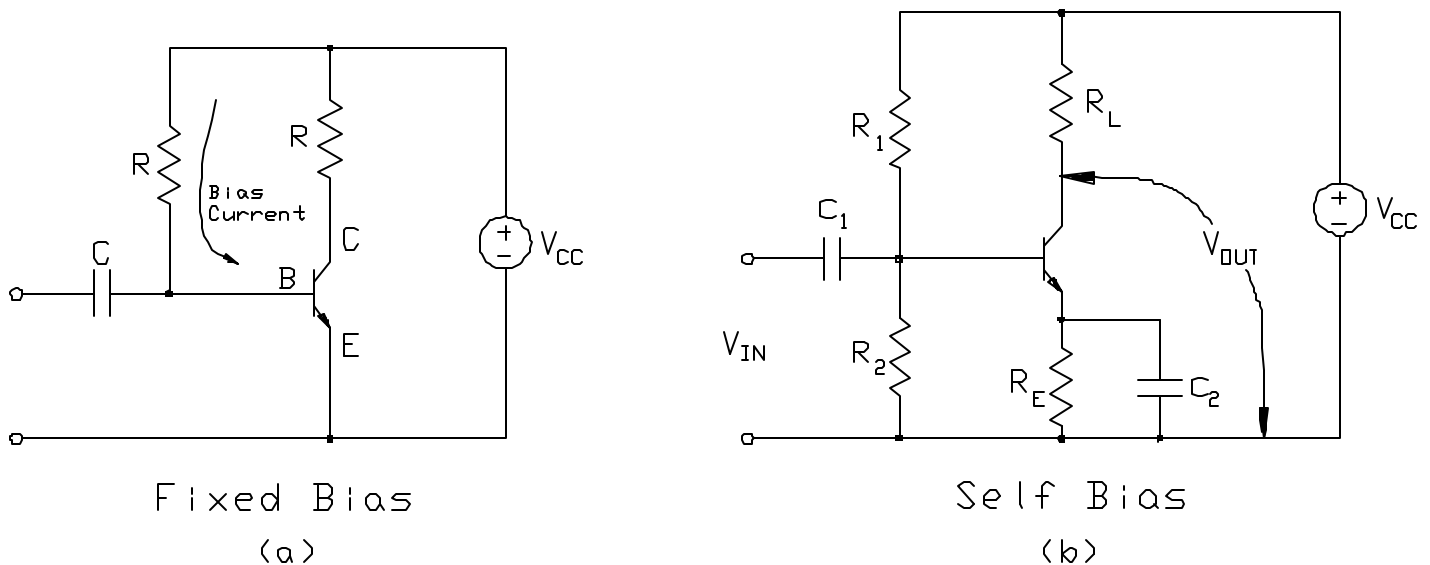

Figure 9
- 3) In Figure 9(b), consider the loop that includes V_{CC} and V_{out} . The current through R_L is i_C and the current through R_E is $i_E = i_B + i_C$ (recall that V_{CC} is a DC source and a capacitor like C_2 acts like an open circuit for DC). Now $i_B = i_C / \beta$, so for a large β , $i_C \gg i_B$ and $i_E \approx i_C$. Therefore, the current through R_E is approximately i_C and the loop equation is $V_{CC} - i_C R_L - V_{CE} - i_C R_E = 0$. i_C is a maximum when $V_{CE} = 0$ (recall V_{CE} must be greater than zero). Therefore, pick $R_L + R_E = V_{CC} / i_C^{max}$.